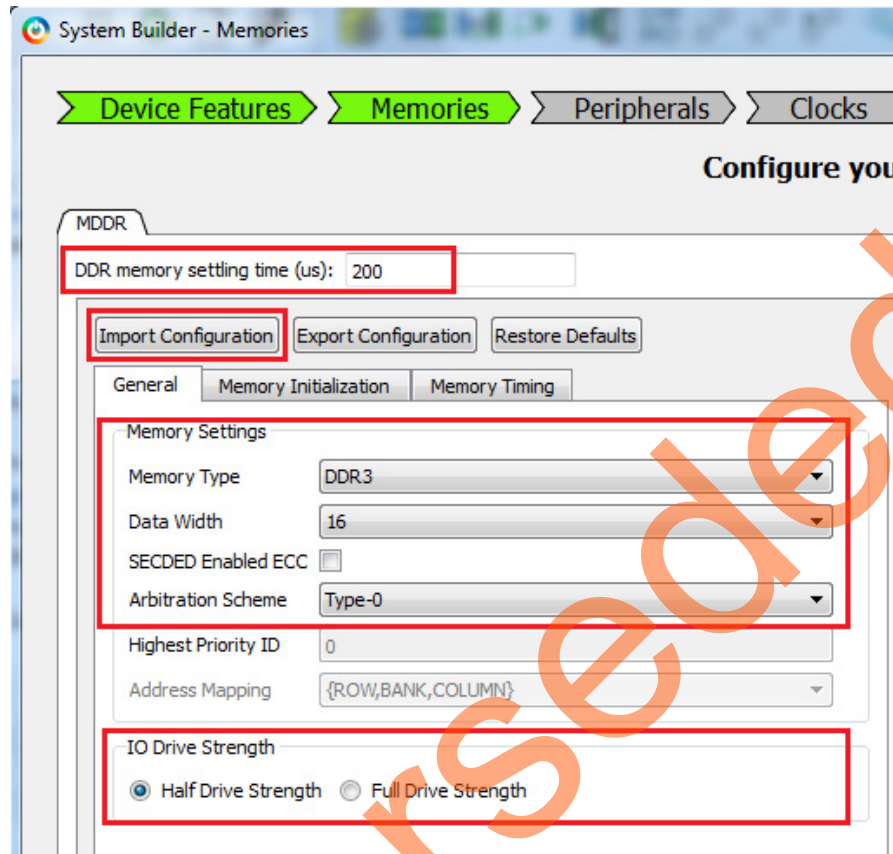

Figure 9 • Memory Configuration
2. Configure the MDDR in **Memories** tab as shown in Figure 9. In this example, the design is created to access the DDR3 memory with a 16-bit data width and no ECC.